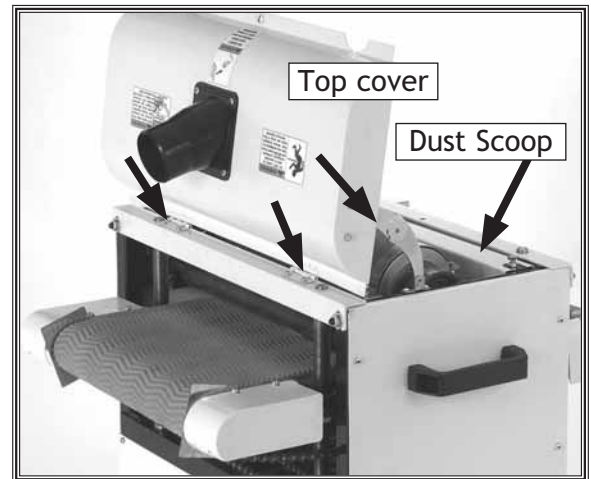

Figure 42. Top cover mounting hardware.
2. Remove the top cover by loosening the hex bolts and removing the Phillips head screws (Figure 42) securing the top cover support.